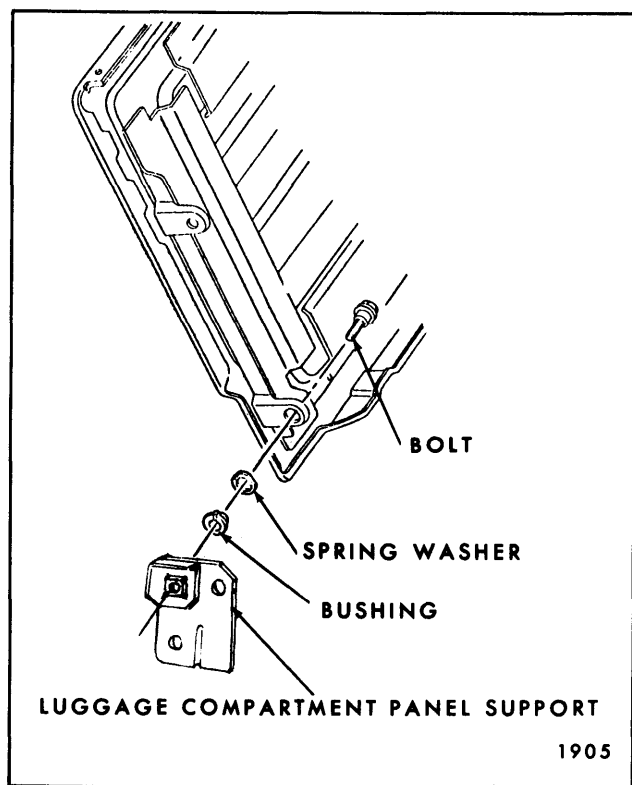

Fig. 15-56—Luggage Compartment Panel Attachment to Body
3. Remove bolt (Fig. 15-56) at both sides of front panel securing front and rear panel assemblies to supports; then remove assembly from body.
4. To install, reverse removal procedure. Make sure bushing and spring washer are properly installed (Fig. 15-56).